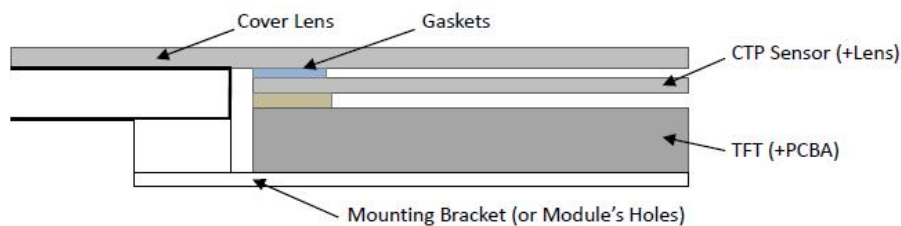

Figure 3
7.3 Additional Cover Lens Mounting (Figure 3)
7.3 覆加盖板 (附图 3)